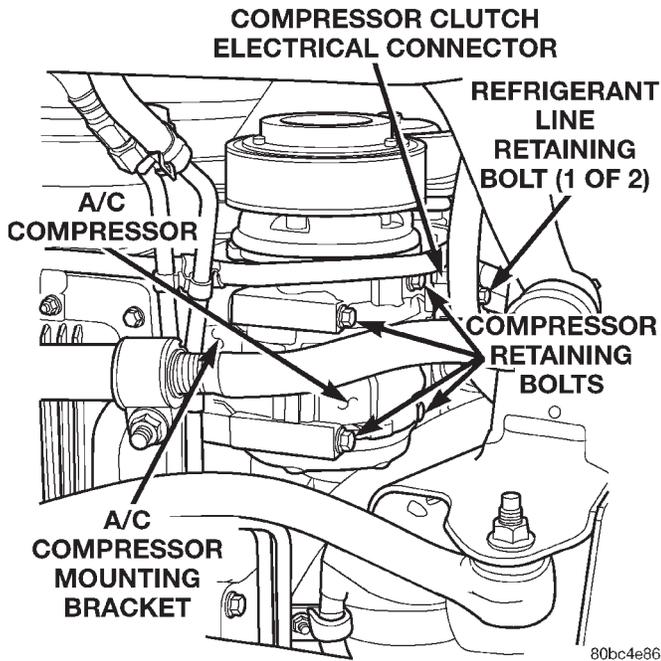

Fig. 29 Compressor Position & Orientation
- (1) Lift the compressor into position and install the (4) mounting bolts (Fig. 29). Torque the bolts to 41 N·m (30 ft. lbs.).
- (2) Connect the compressor electrical connector (Fig. 29).
- (3) Install both refrigerant lines on the compressor (Fig. 29). Make certain the sealing O-rings are free of tears and well lubricated with R-134a refrigerant oil. Torque the line retaining bolts to 22 N·m (200 in. lbs.).
- (4) Install the front splash shield.
- (5) Lower the vehicle from the hoist.
- (6) Install the accessory drive belt on the compressor clutch. Refer to Accessory Drive Belt in Group 7, Cooling System for the procedure.